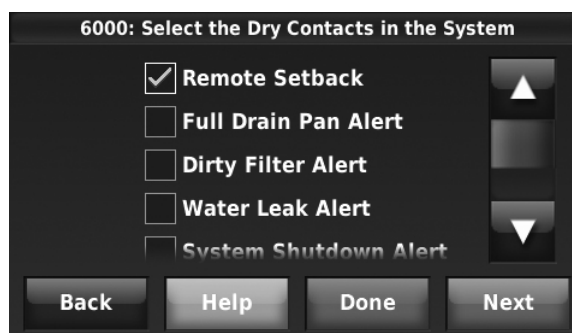

Fig. 300.
1. Select "Remote Setback" as shown in Fig. 300.